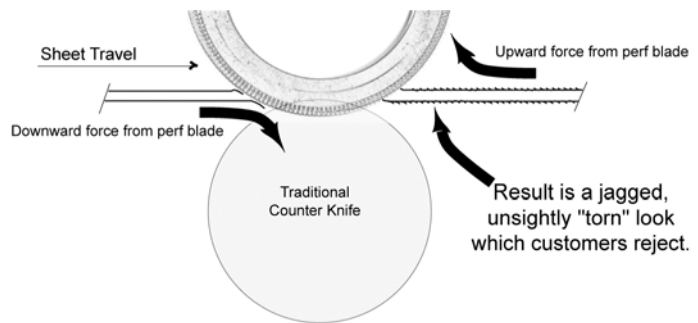

Figure 1 Conventional perf deforms sheet both downward & upward.
- The perforating blade makes contact with the bottom cutting anvil and overlaps by 2mm as seen in Figure 1. The teeth of the perforating blade produce a series of punctures to the stock surface that often results in distortion or broken particles; evidence of this can be seen with the untidy scattering of paper dust below. The dust and distortion of the paper stock can cause problems for those jobs that need to run through another process.